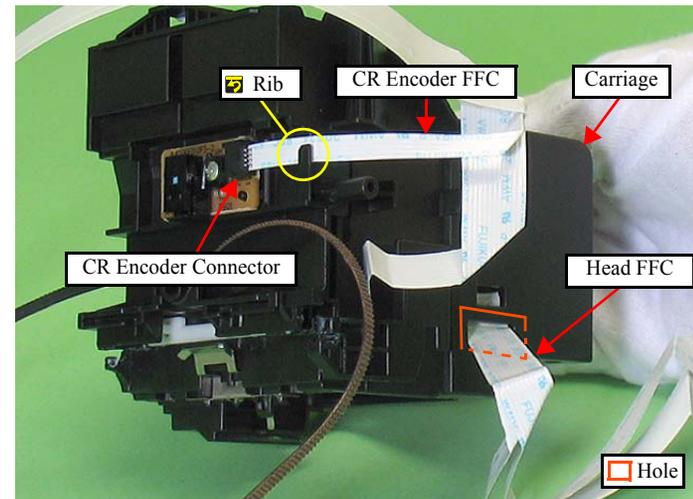

Figure 4-81. Removing the CR Unit (3)
- Route the CR Encoder FFC through the rib as shown in Fig.4-81.